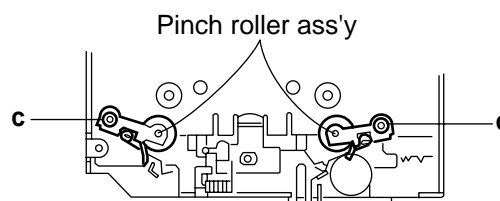

Fig.5
■ Removing the pinch roller ass'y (see Fig.5,6)